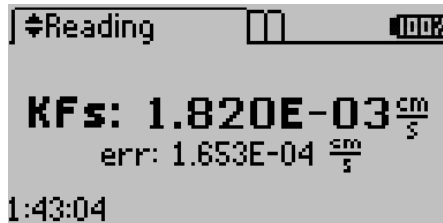

Figure 18 Results screen
- **Results Screen.** After a test is complete, the Results screen replaces the Status screen. It shows the resulting K_f of the test (Figure 18). The error (err) value also appears on the Results screen. The err is the standard error of the K_f reading and represents the amount of noise in the measurement. Press **UP** and **DOWN** to change Reading screens or press the **POWER/MENU** button to navigate to the Configuration tab. SATURO will display the results from the last test if no test is running.